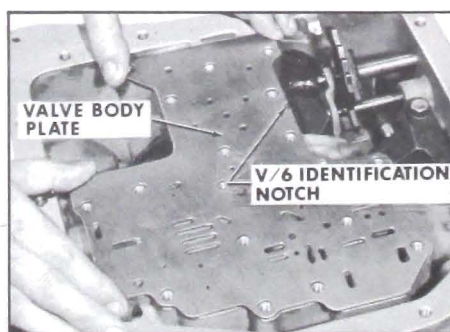

Figure 5-120
11. Remove valve body plate. See Figure 5-120.